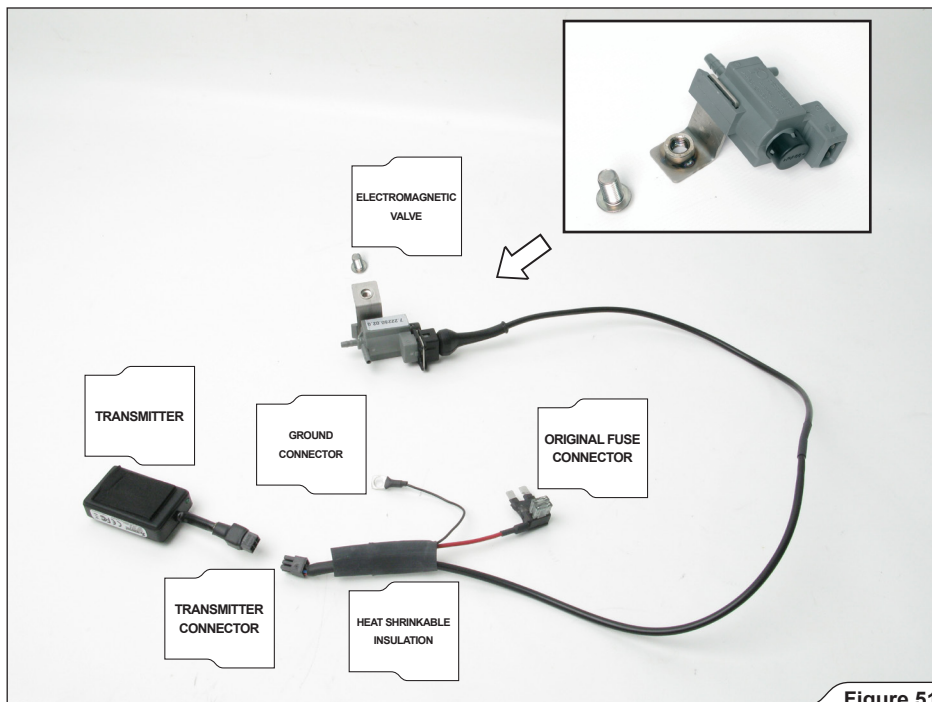

Figure 51
15. **For wireless kit installation:** transmitter wiring harness: assemble the bracket from Akrapovič installation kit onto the electromagnetic valve as shown (**Figure 51**).